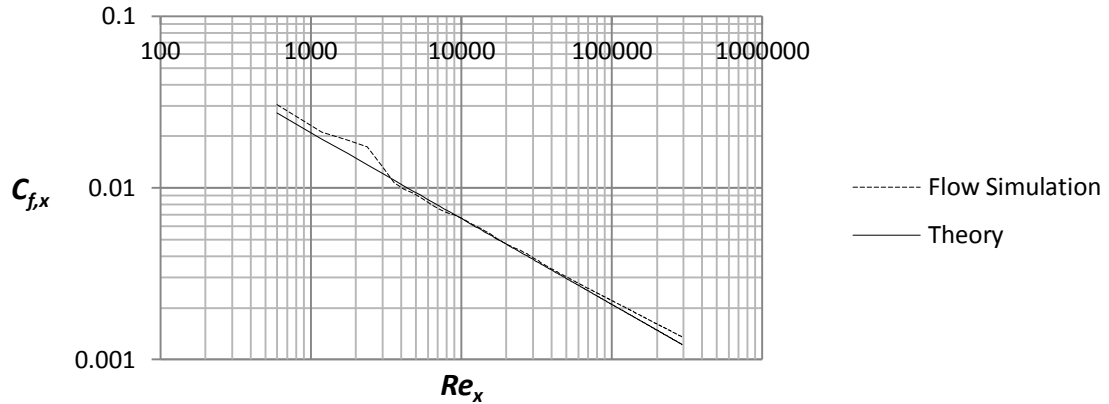

Figure 2.26 Local friction coefficient as a function of the Reynolds number
Place the file “xy-plot figure 2.26” into the **Local Disk (C:)/Program Files /SolidWorks Corp/SolidWorks Flow Simulation/lang/english/template/XY-Plots** folder to make it available in the **Template** list. Repeat step 24 but this time choose the sketch **x = 0 – 0.9 m**, uncheck the box for **Velocity (X)** and check the box for **Shear Stress**. Rename the xy-plot to **Local Friction Coefficient**. An Excel file will open with a graph of the local friction coefficient versus the Reynolds number compared with theoretical values for laminar boundary layer flow.